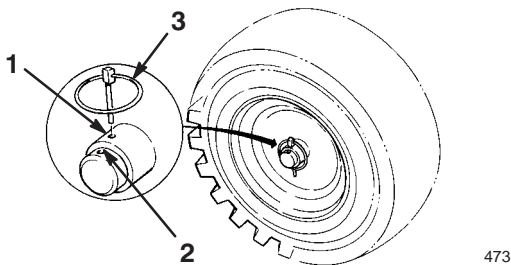

Figure 6
- Slide the wheels inward and insert each axle pin through the hole in each wheel hub and through the *inner* hole of the axle (Fig. 6).